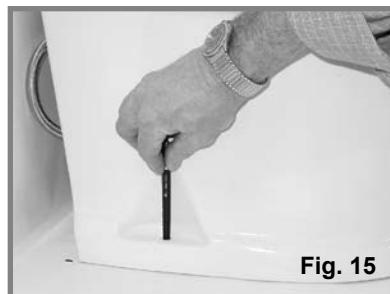

Fig. 15
STEP 14: Mark the holes for the two toilet mounting bolts (fig. 15).